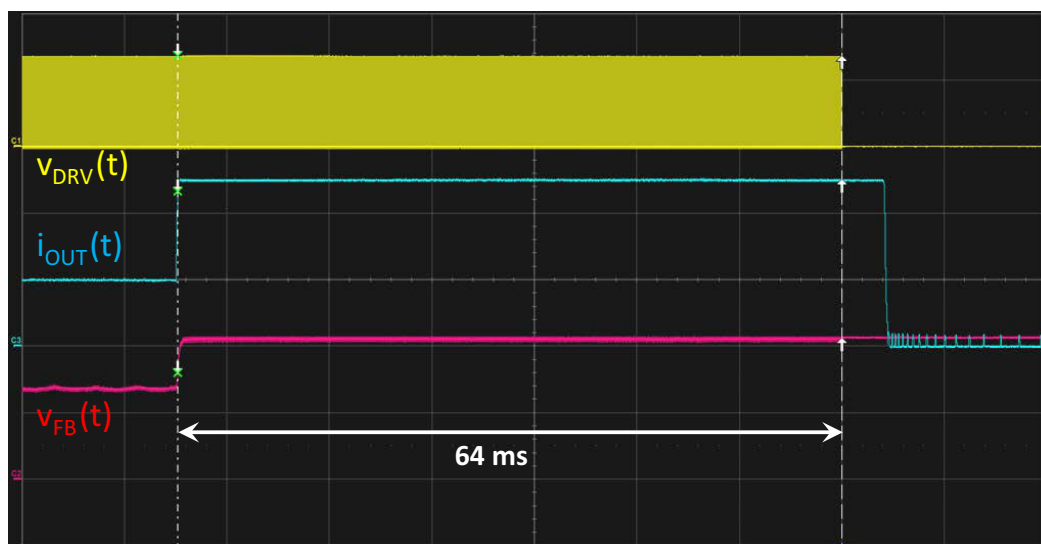
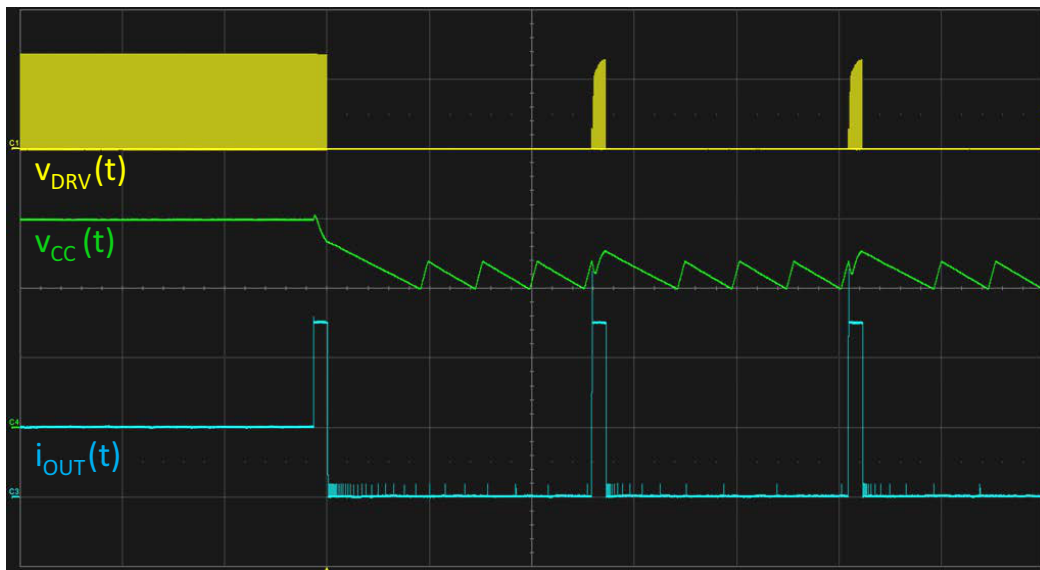

Figure 6. 64-ms Over-current Timer
Figure 7. Auto-recovery Mode
- **Auto-recovery:** when the 64 ms timer elapses, the 1 s auto-recovery timer starts. If the 1 s timer is not finished when V_{CC} crosses $V_{CC(on)}$, HV current source is disabled, controller stays off and V_{CC} decays due to IC consumption. Once auto-recovery timer elapses, the controller initiates a new fresh sequence with soft-start at next $V_{CC(on)}$ as shown in Figure 6 and Figure 7.